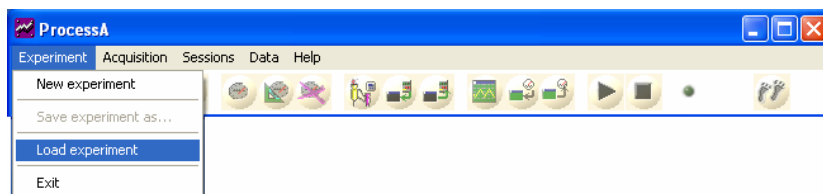

Figure 5-20
- In Process@ functions bar, select **“Experiment / Load Experiment”** (Figure 5-20)